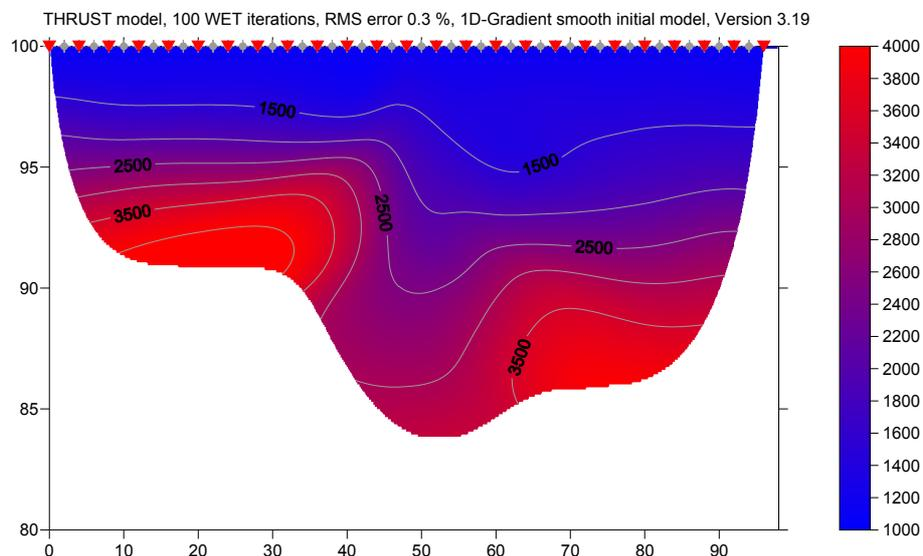

Fig. 3 : 100 WET iterations, 1D initial model (Fig. 2 a)), WET wavepath width 2%
- click buttons *Accept parameters* and *Start tomography processing*. Obtain Fig. 3.